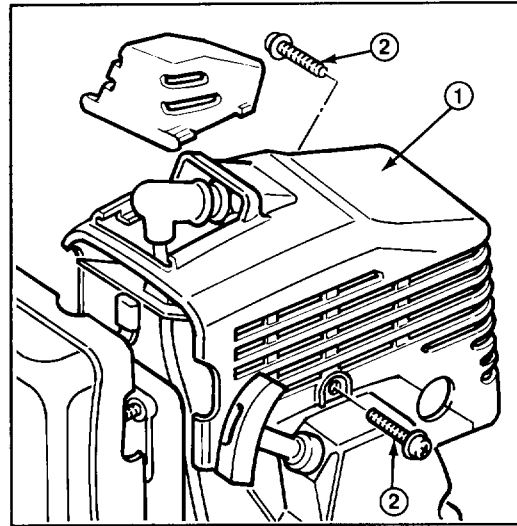

Figure 13
### SERVICING MUFFLER (Fig. 13 & 14)
1. Remove two (2) screws securing muffler cover to trimmer (Fig. 13).